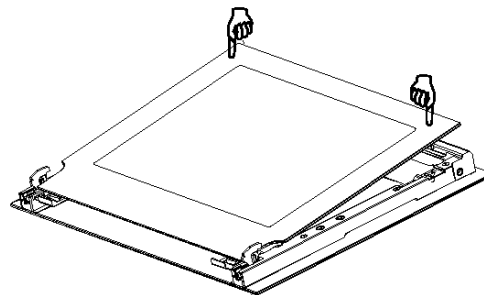

Figure 13
2. To press the glass into snap hook, as shown in figure 13